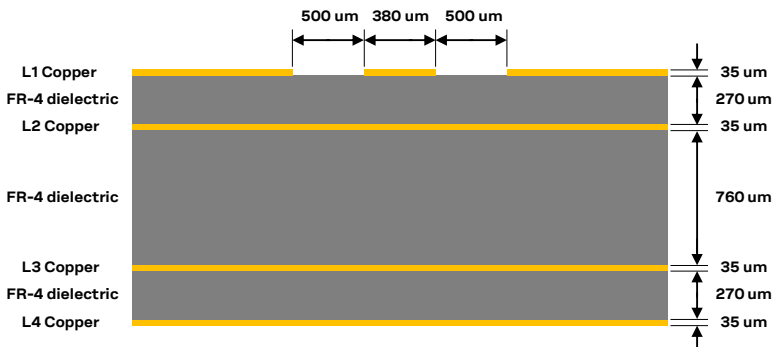
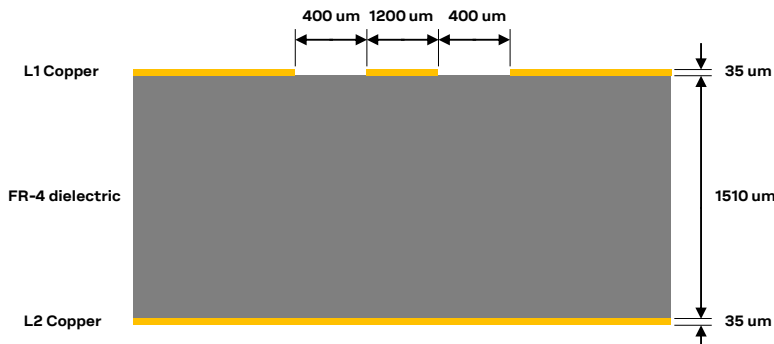

Figure 57: Example of 50  $\Omega$  coplanar waveguide transmission line design for the described 4-layer board layup
Figure 58: Example of 50  $\Omega$  coplanar waveguide transmission line design for the described 2-layer board layup
Figure 57 and Figure 58 provide two examples of suitable 50  $\Omega$  coplanar waveguide designs. The first transmission line can be implemented for a 4-layer PCB stack-up described herein, the second transmission line can be implemented for a 2-layer PCB stack-up described herein.
- the thickness of the transmission line itself (e.g. 35  $\mu\text{m}$  in the example of Figure 57 and Figure 58)
- the thickness of the dielectric material between the top layer (where the transmission line is routed) and the inner closer layer implementing the ground plane (e.g. 270  $\mu\text{m}$  in Figure 57, 1510  $\mu\text{m}$  in Figure 58)
- the dielectric constant of the dielectric material (e.g. dielectric constant of the FR-4 dielectric material in Figure 57 and Figure 58)
- the gap from the transmission line to the adjacent ground plane on the same layer of the transmission line (e.g. 500  $\mu\text{m}$  in Figure 57, 400  $\mu\text{m}$  in Figure 58)